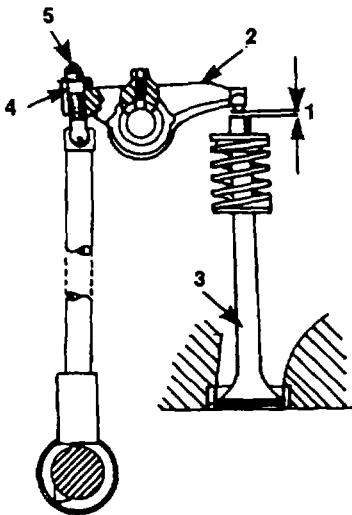

Figure 3-21. Valve Clearance
- d. Check valve clearance (figure 3-21).
1. Valve clearance (1) is correct when a 0.15 mm feeler gauge can be inserted with a slight drag between rocker arm (2) and valve (3).